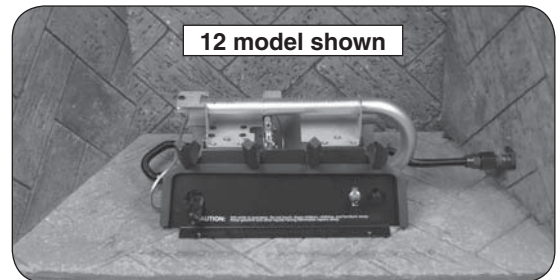

Fig. 16-2 Overall orientation
3. Place the burner system in the fireplace. Center the burner in the fireplace. (Reference Fig. 16-2 for orientation.)
6. **12 models only: place the wood-chip ON/OFF switch at the front left corner of the fireplace. Place as far from the burner system as possible.** See Fig. 16-2.